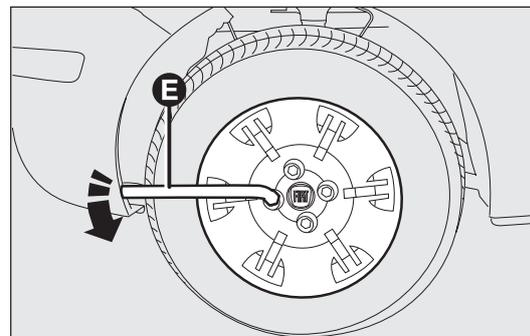

fig. 123
- loosen by about one turn the bolts on the wheel to be replaced, using the tool E-fig. 123;